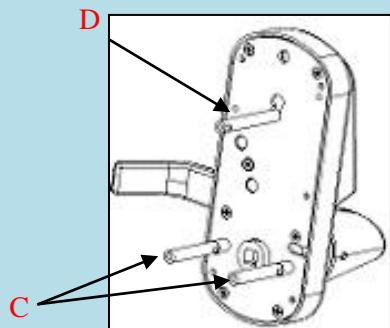

Fig 3
Screw in and tighten the two fastener extensions (C) into the front lock fastener posts, located on both sides of the center hub. Attach and tighten the upper fastener extension (D) (Fig 3) Note: The upper fastener extension (D) is optional.